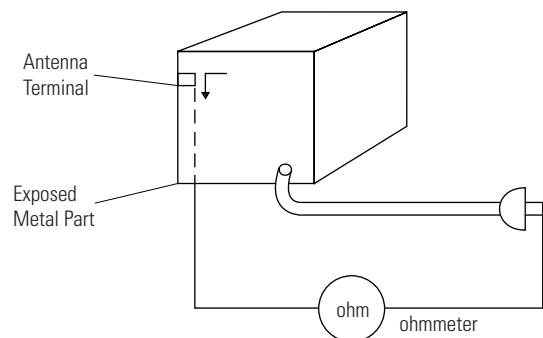

Fig. 1-2 Insulation Resistance Test
(4) Insulation Resistance Test Cold Check-(1) Unplug the power supply cord and connect a jumper wire between the two prongs of the plug. (2) Measure the resistance with an ohmmeter between the jumpered AC plug and all exposed metallic cabinet parts on the instrument, such as screwheads, antenna, control shafts, handle brackets, etc. When an exposed metallic part has a return path to the chassis, the reading should be between 1 and 5.2 megohm. When there is no return path to the chassis, the reading must be infinite. If the reading is not within the limits specified, there is the possibility of a shock hazard, and the instrument must be repaired and rechecked before it is returned to the customer. See Fig. 1-2.